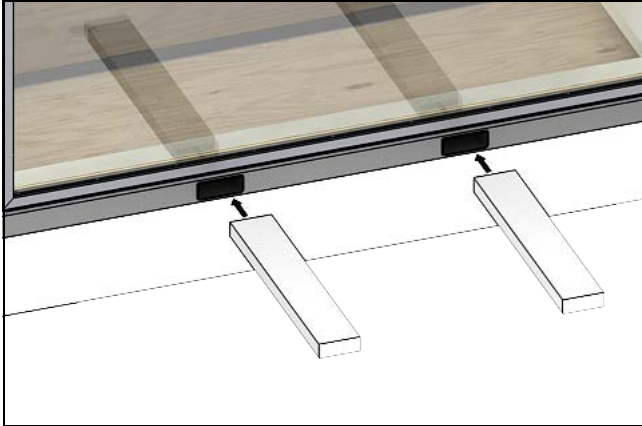

Figure 33
2. Remove the 2" X 8" X 20" foam from inside the foam box. Install into the installation holes of the steel frame ensuring the foam is flush to the outside of the steel structure. See Figure 33.